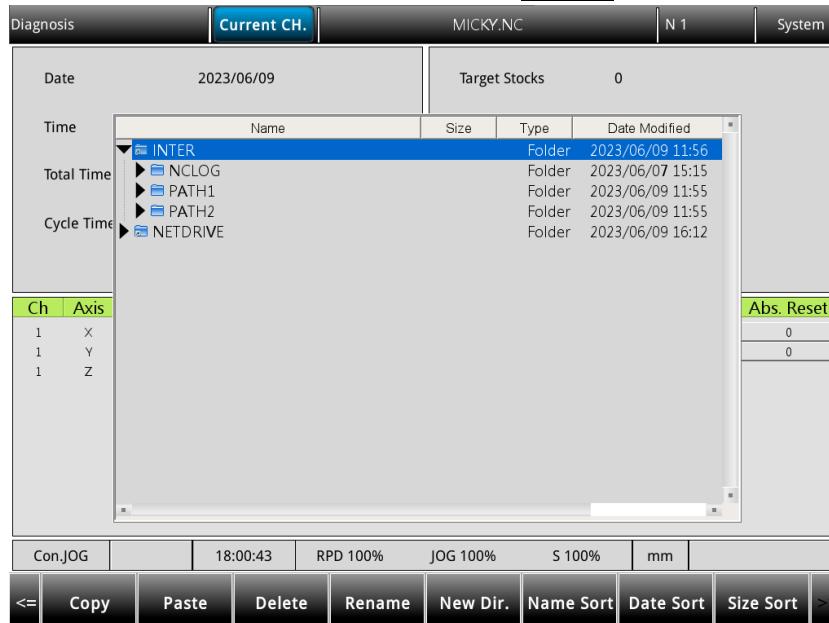

Figure 3.6.8.1
- (1) Press **DGN** to enter the DGN screen.
- (2) Press **Import** to display the file manager (FILE) window as shown in Figure 3.6.8.1. Press **↑** and **↓**, select the directory for importing, and press **ENTER** to read the files in the folder.